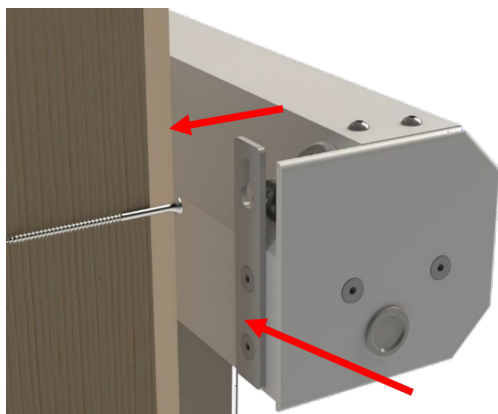

Figure 8. Wall Mount on back of RS1 unit
2. Drive one 1-½" deck screw on each center that you measured on the wall (see Figure 8). Ensure that the screws are level with a laser or string.